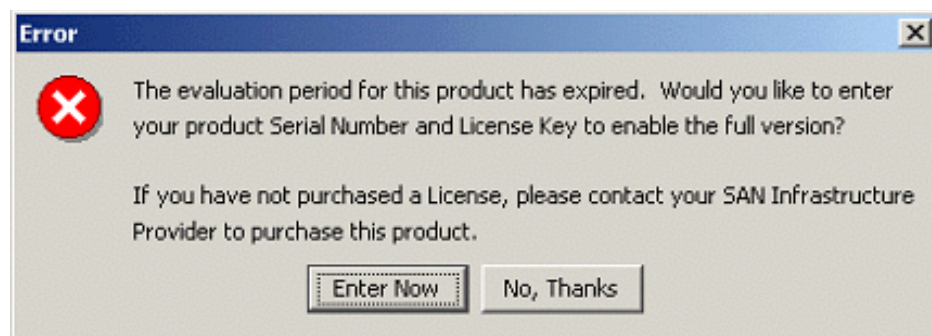

Figure 24 Evaluation version expiration notification
After 60 days, the Evaluation version expires and an error message is displayed the next time you launch Fabric Manager (see Figure 24).
- Click **Enter Now** from the error message that appears (see Figure 24) if you launch Fabric Manager after the 60-day evaluation period expires. You will need to enter your serial number and license key.